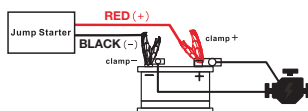

Fig 6
1. Connect the Batteryless Jump Starter to the weak 12V DC battery in your vehicle by connecting the Positive Battery Clamp **RED** (1) to the positive battery terminal, then connect the Negative Battery Clamp **BLACK** (2) to the negative battery terminal (Fig 6).